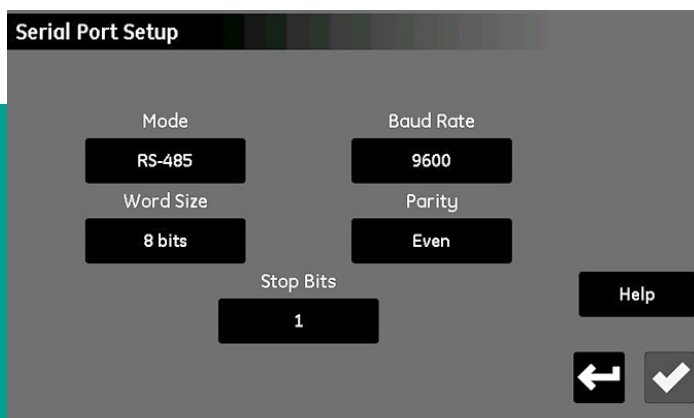

Figure 67: Serial port setup screen
1. From the *configuration menu* screen (see *figure 52* on page 59), tap the **serial port** button to open a *serial port setup* screen similar to *figure 67* below.